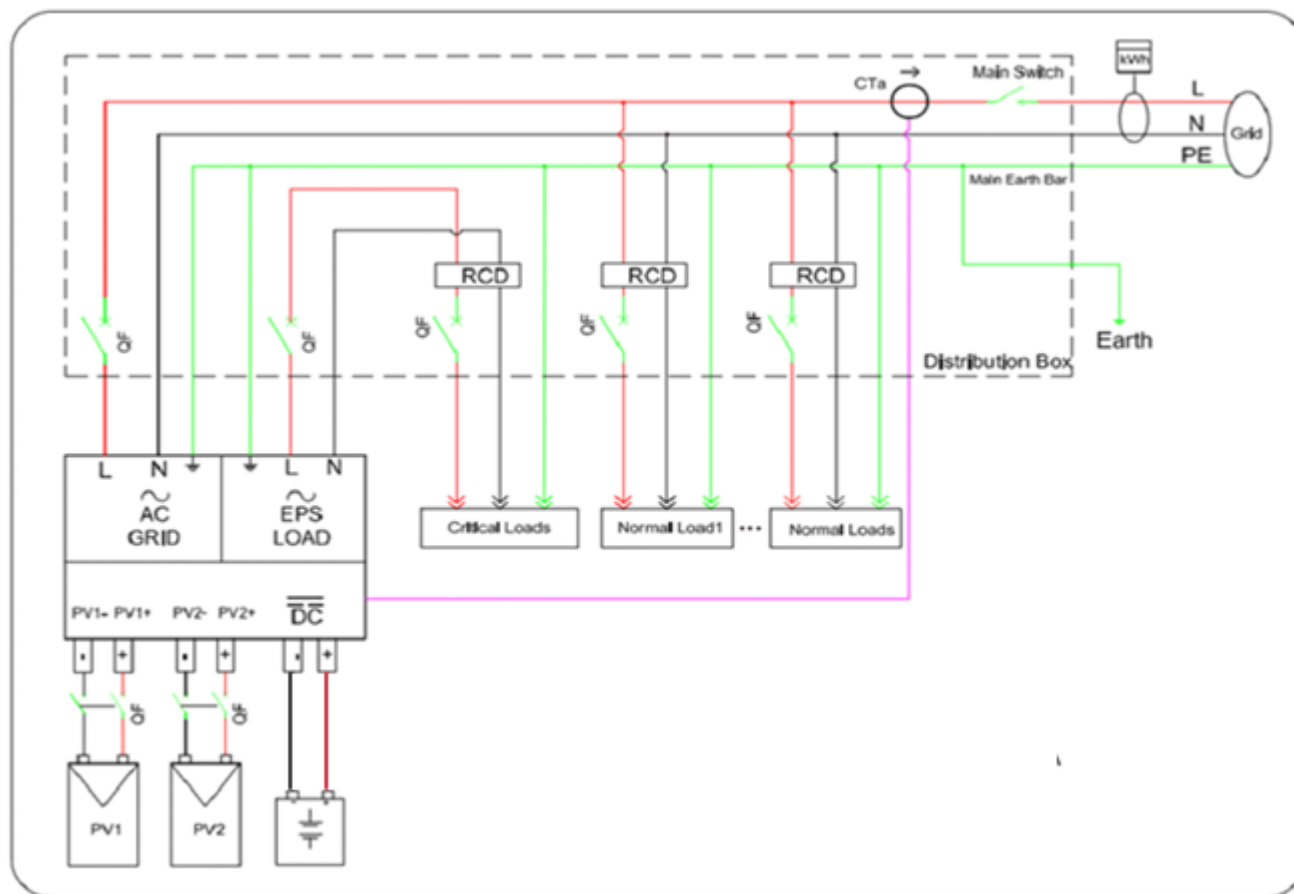

Figure 6 - Electrical Connections
**Step 1:** Unscrew the 4 screws (A) using a screwdriver (Fig. 6).
**Step 2:** Remove the waterproof cover (B), loosen the cable gland (C), and then remove the cap (G).
**Step 3:** Pass the battery cables (F) through the cable gland, then connect the battery wires using the OT terminal (E).